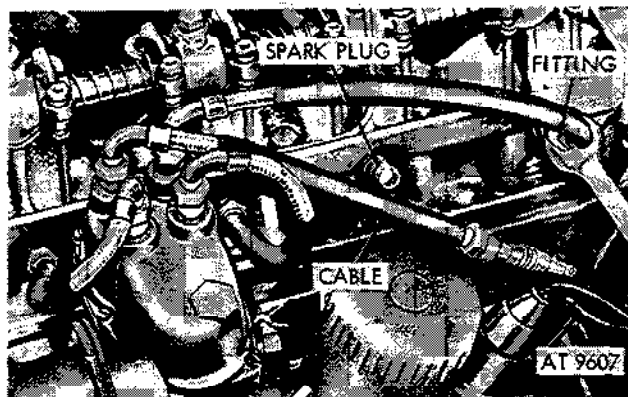

Figure 2-60. Remove spark plugs.
(10) Disconnect fitting securing spark plug cables to spark plugs. Remove spark plugs (fig. 2-60).